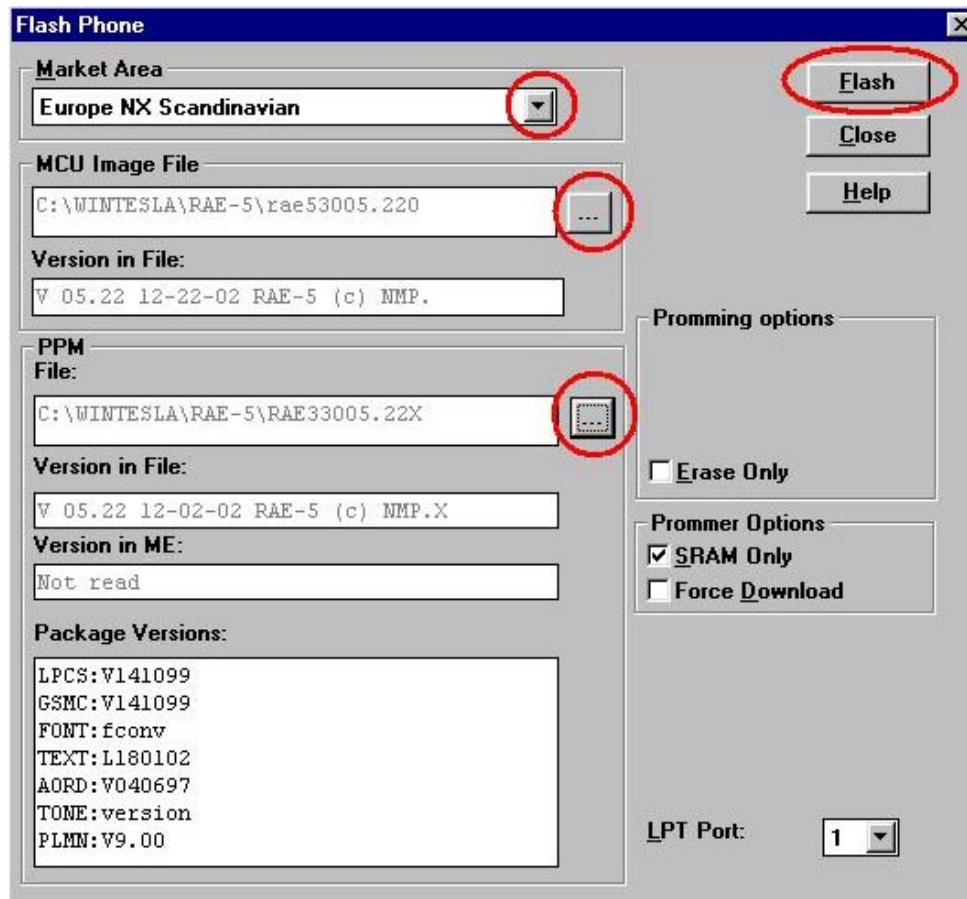

Figure 8. Flash phone –dialog
9. Press the **Flash** button (see Figure 8)
18. Insert the MMC that includes the correct SIS package. The same language and version as in the ROM image (same as 'Market Area' in Figure 8).